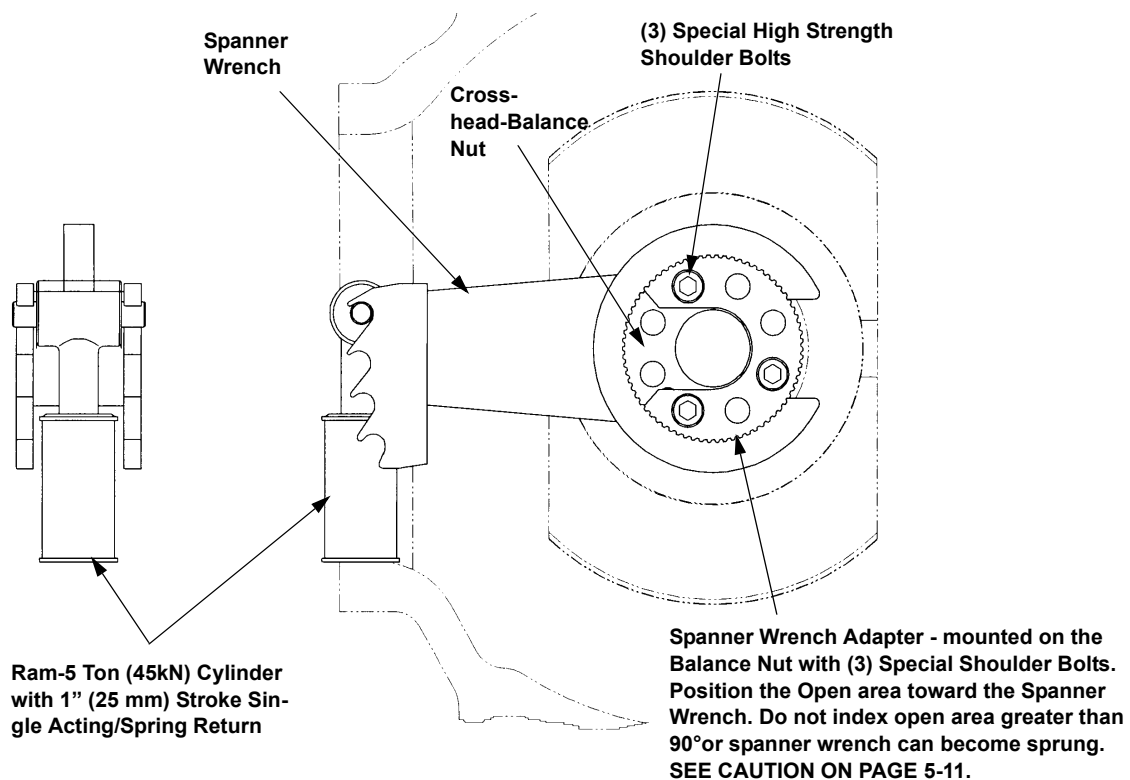

FIGURE 5-8: CROSSHEAD-BALANCE NUT HYDRAULIC TORQUE TOOL (G-7583) - SHOWN IN TIGHTENING POSITION - TYPICAL
(for hex nuts only) shown in Figure 7-1: on Page 7-2, depending on nut style. Or use purchased separately hydraulic crosshead nut torque tool, see Figure 5-8: on Page 5-13
- Or tighten using the purchased separately crosshead-balance nut hydraulic torque tool and hand pump kit, see Figure 5-8: on Page 5-13. See Table 1-15 on Page 1-25 for the hydraulic pressure to be applied to the torque tool. When initially installing the tool, position the spanner wrench adapter open area toward the spanner wrench as shown in the Figure. Apply hydraulic pressure to the ram to tighten the crosshead-balance nut. When the ram moves to the end of its travel, release the pressure and index the ram to the spanner wrench slot and/or spanner wrench to adapter, until the nut stops moving at the specified hydraulic pressure. If during tightening, the adapter open area turns 90° before nut is tight, remove the spanner wrench. Remove the bolting in the spanner wrench adapter to the crosshead-balance nut and reposition the adapter so the open area again faces the spanner wrench.